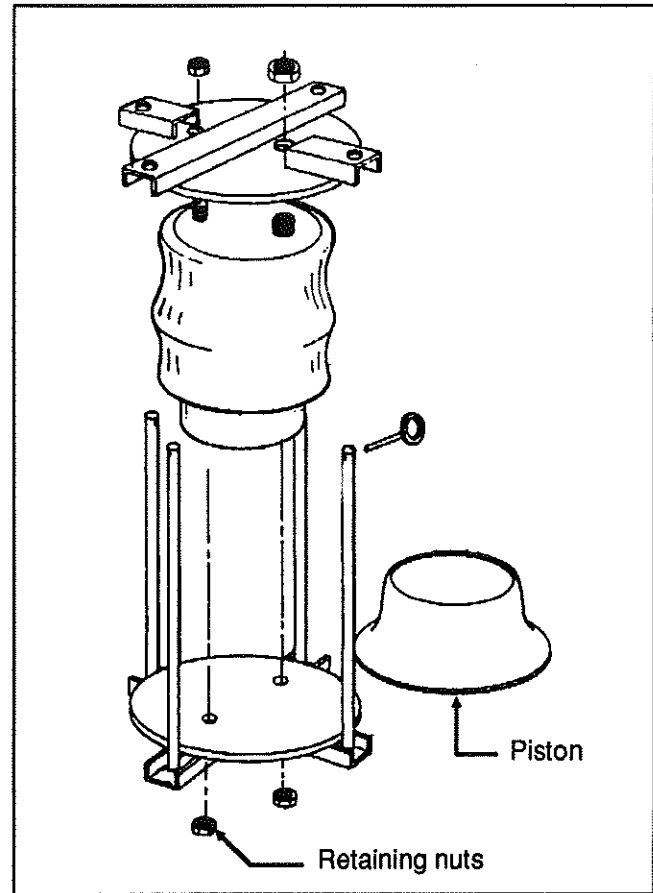

FIG. 7
1. Install the air spring as shown, and slowly add air pressure through the fitting in the upper retainer plate. This will disassemble the lower retainer from the bellows (see fig. 7 and 8).